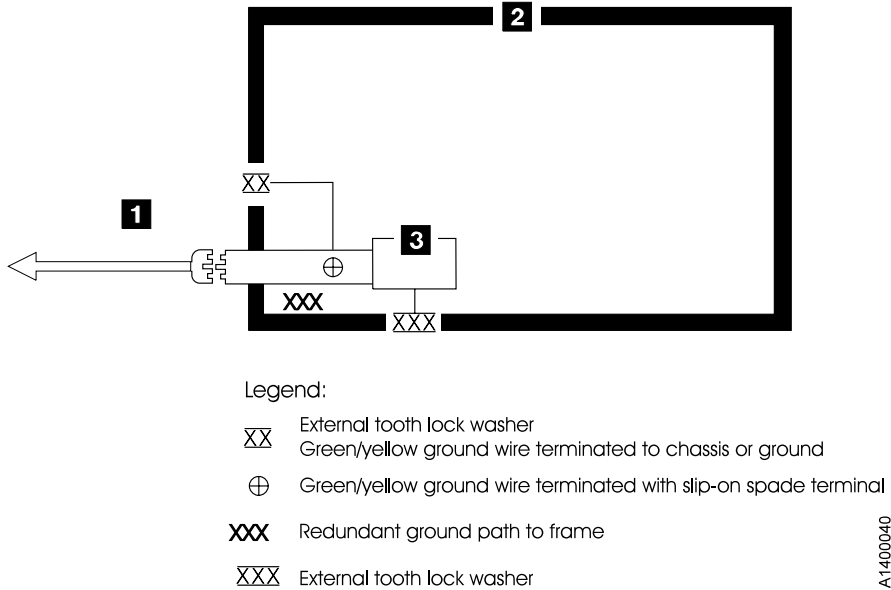

Figure 2-2. AC Grounding Diagram (50 Hz and 60 Hz)
3. See Figure 2-2 on page 2-5. Disconnect the power cord **1** from its source.